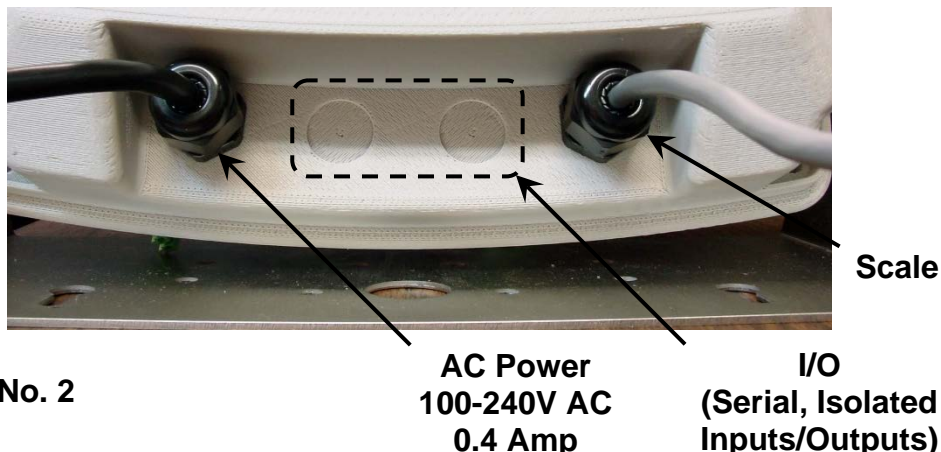

Figure No. 2
2. Referring to Figure No. 2, choose a gland connector for the load cell cable and loosen it.
1. Loosen the 4 Captive screws securing the rear housing to the front housing assembly, and then loosen a gland connector for the serial cable. Refer to Figure No. 2 for an illustration of the connector layout.